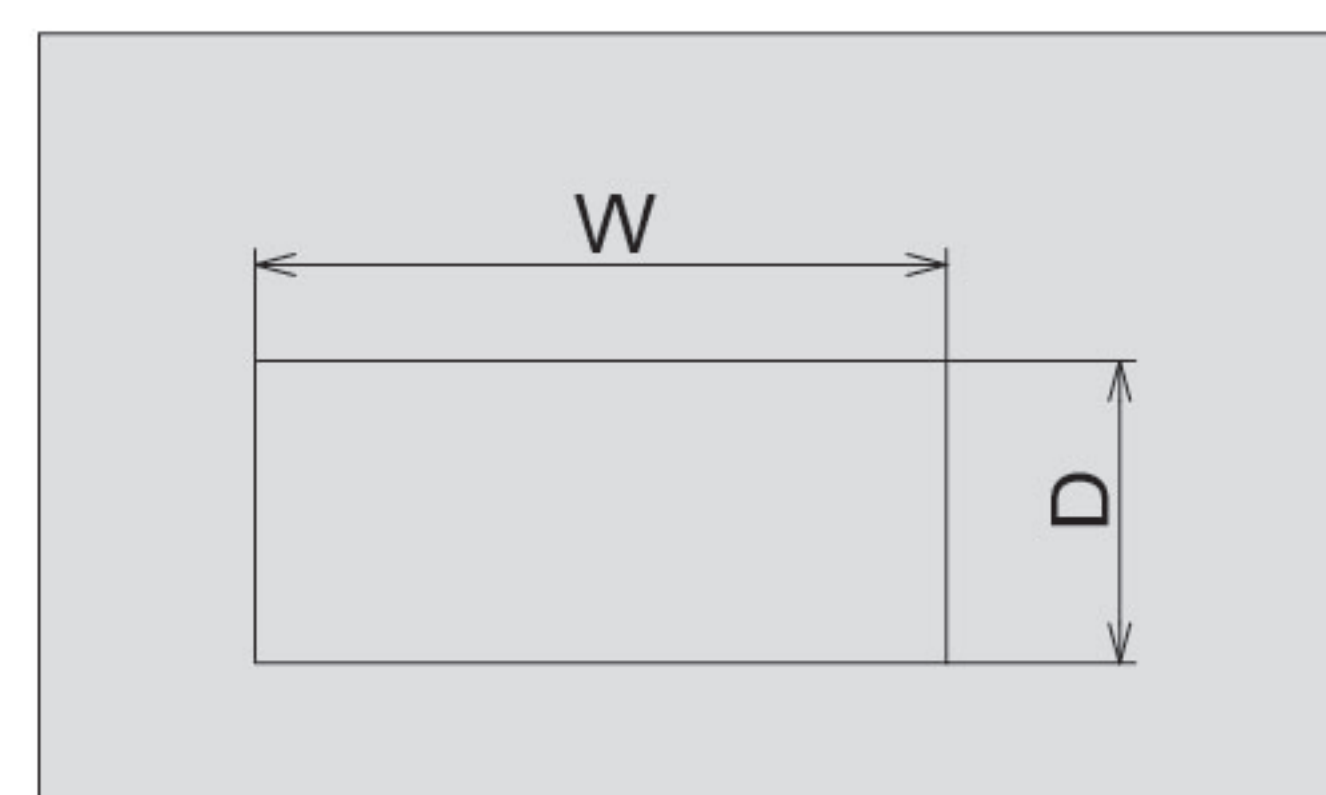
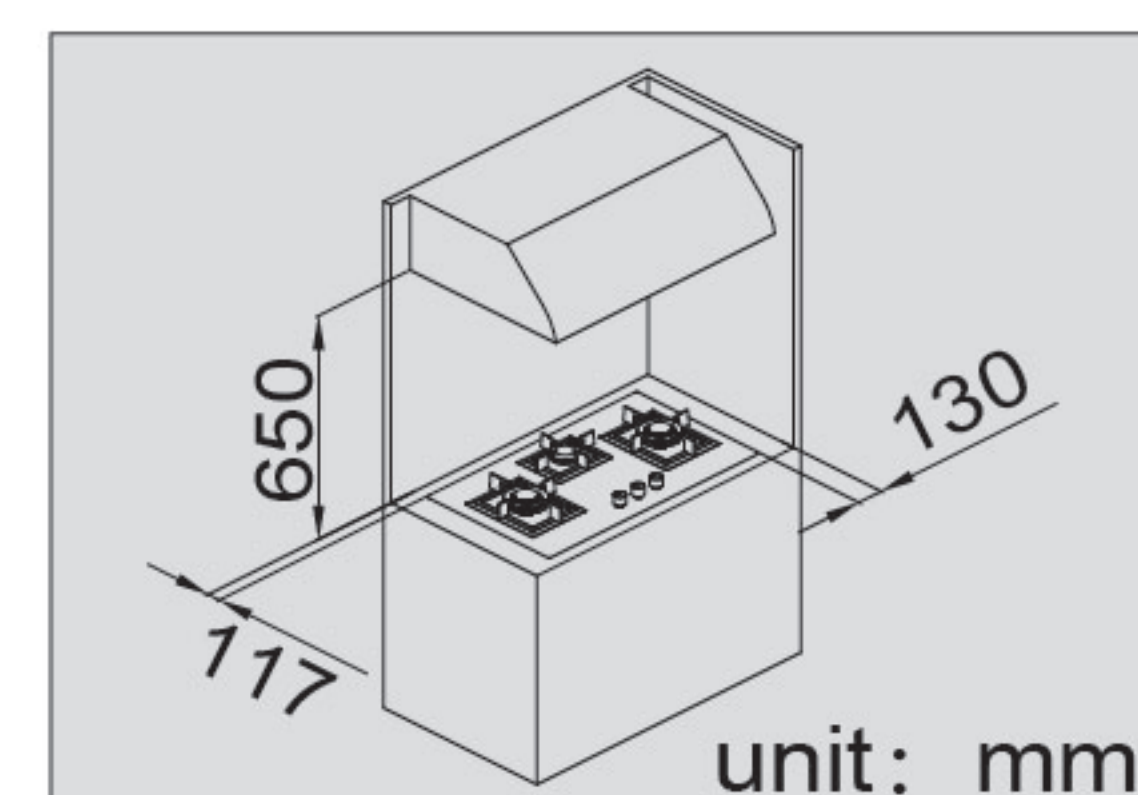

Fig.3
Fig.4
If it's GLG90305, please create an opening with the dimensions 816mm(W)×460mm(D) If it's GLG90505, please create an opening with the dimensions 844mm(W)×488mm(D) shown in the figure 3. Keep a minimum clearance of 117mm from the rear edge to the combustible material and 130mm from the side edges to the combustible material. Make sure there is a minimum of 650mm between the work surface and the range hood that may be installed directly above them (figure 4).